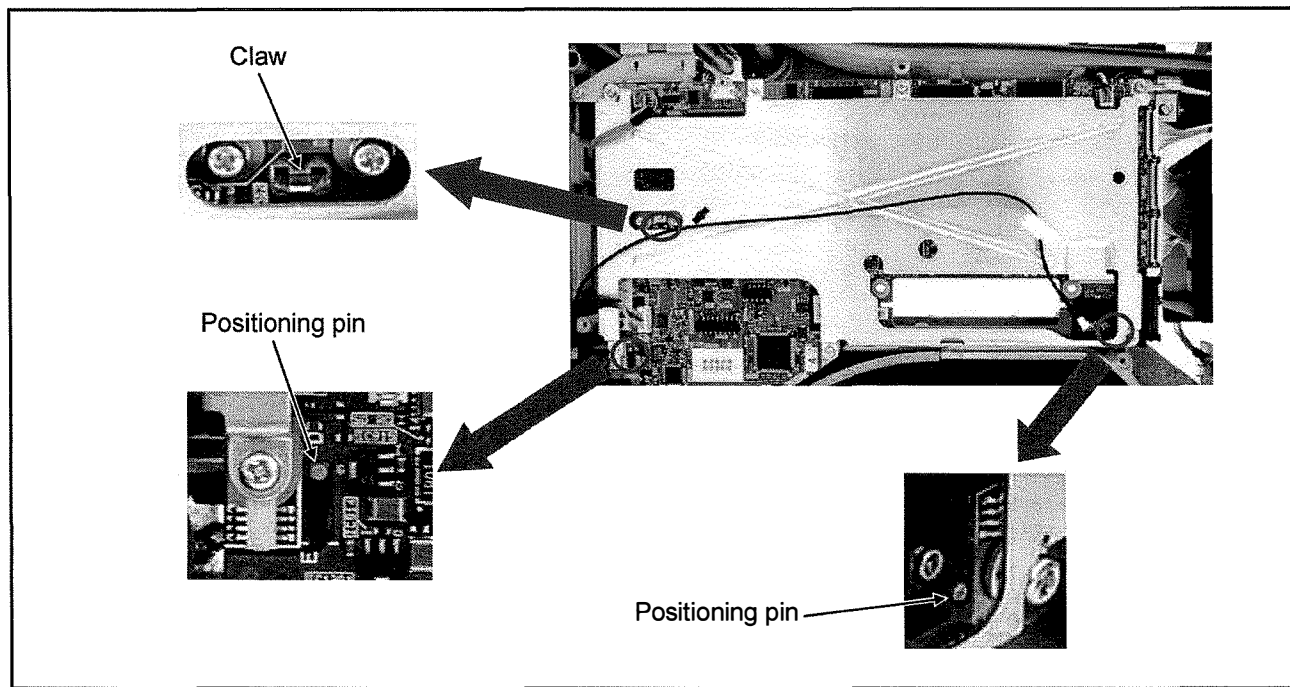

Figure 9-3
1. Match the hole of DIGITAL MAIN P.C.B. and positioning pin, claw as shown in figure 9-3.